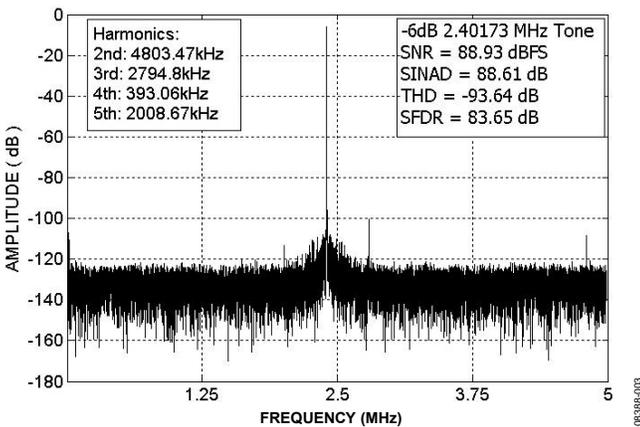

Figure 3. *AD7626* Output, 64,000-Point FFT Plot, -6 dBFS Amplitude, 2.40173 MHz Input Tone, 10,000 MSPS Sampling Rate
2.794 MHz. Figure 3 shows a FFT plot for a tone with an amplitude of -6 dBFS.